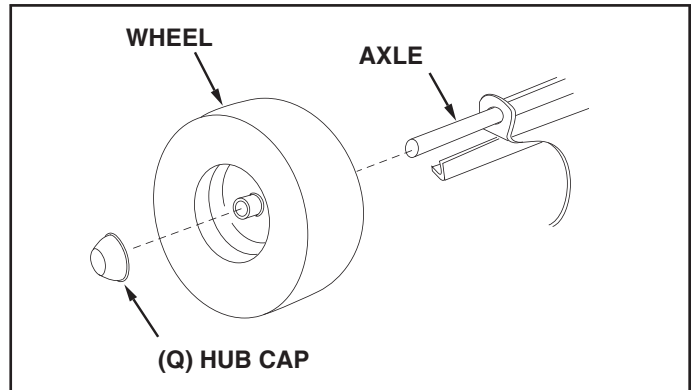

FIGURE 6
12. Assemble a wheel with the valve stem facing out onto the axle. Assemble a hub cap (Q) by pressing or tapping it onto the axle. Repeat on other end of axle. See figure 6.